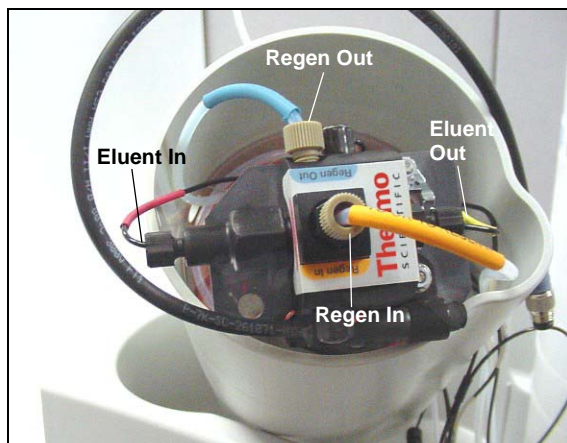

Figure 39. Plumbed Dionex CR-TC
4. With the Dionex CR-TC oriented as shown in Figure 39, connect each line to the corresponding port on the Dionex CR-TC.